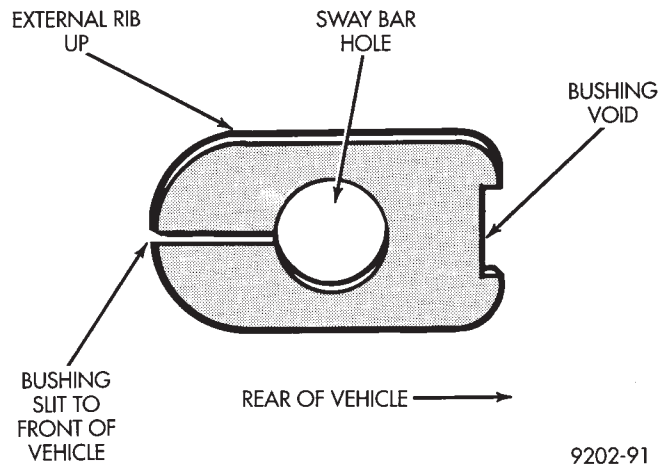

Fig. 2 Sway Bar To Crossmember Bushing Position
Inspect for broken or distorted clamps, retainers, and bushings. If bushing replacement is required, the inner bushing can be removed by opening the split. The outer bushing must be cut or hammered off the bar. If replaced, the outer bushings should be forced on so that approximately 1/2 inch of the bar protrudes. The sway bar to crossmember bushings, should be positioned when installed, so the void on the bushing is positioned toward the rear of the vehicle (Fig. 2). Note that the control arm retainers are symmetric and bend slightly upon installation.
- (1) If inspection of the sway bar assembly, determined that sway bar to lower control arm bushings require replacement. Install the new bushings, by forcing them onto sway bar using a rotating motion. Bushings should be installed on sway bar so that sway bar extends 1/2 inch out past the end of the bushing.
- (2) If required position sway bar to crossmember bushings on sway bar with external rib up and void in the bushing facing the rear of vehicle (Fig. 2). Lift the bar assembly into the crossmember, and install the lower clamps and bolts. The center offset in the sway bar should be oriented toward the front of the vehicle (Fig. 1)